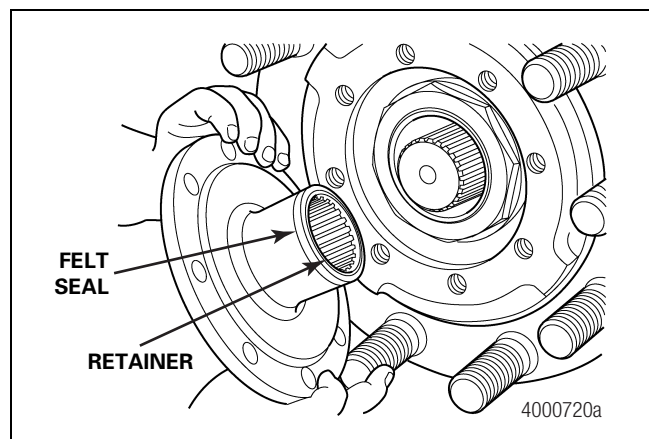

Figure 4.1
6. Remove the capscrews and washers that connect the drive flange to the wheel hub. The hubcap does not need to be removed from the drive flange unless it is damaged. Figure 4.1.